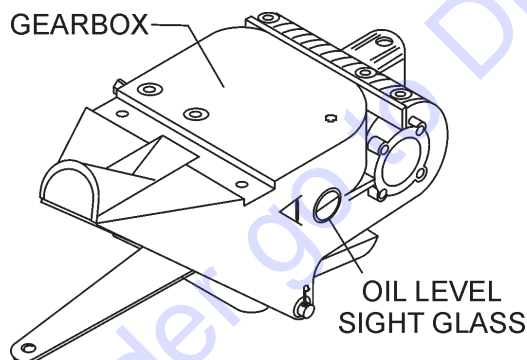

Figure 7. Gearbox
1. Determine if the **gearbox** oil is low by removing the oil plug located on the side of the gearbox. This plug will be marked by the "**check**" decal. See Figure 7. The correct level of the lubrication oil should be to the bottom of the fill plug.